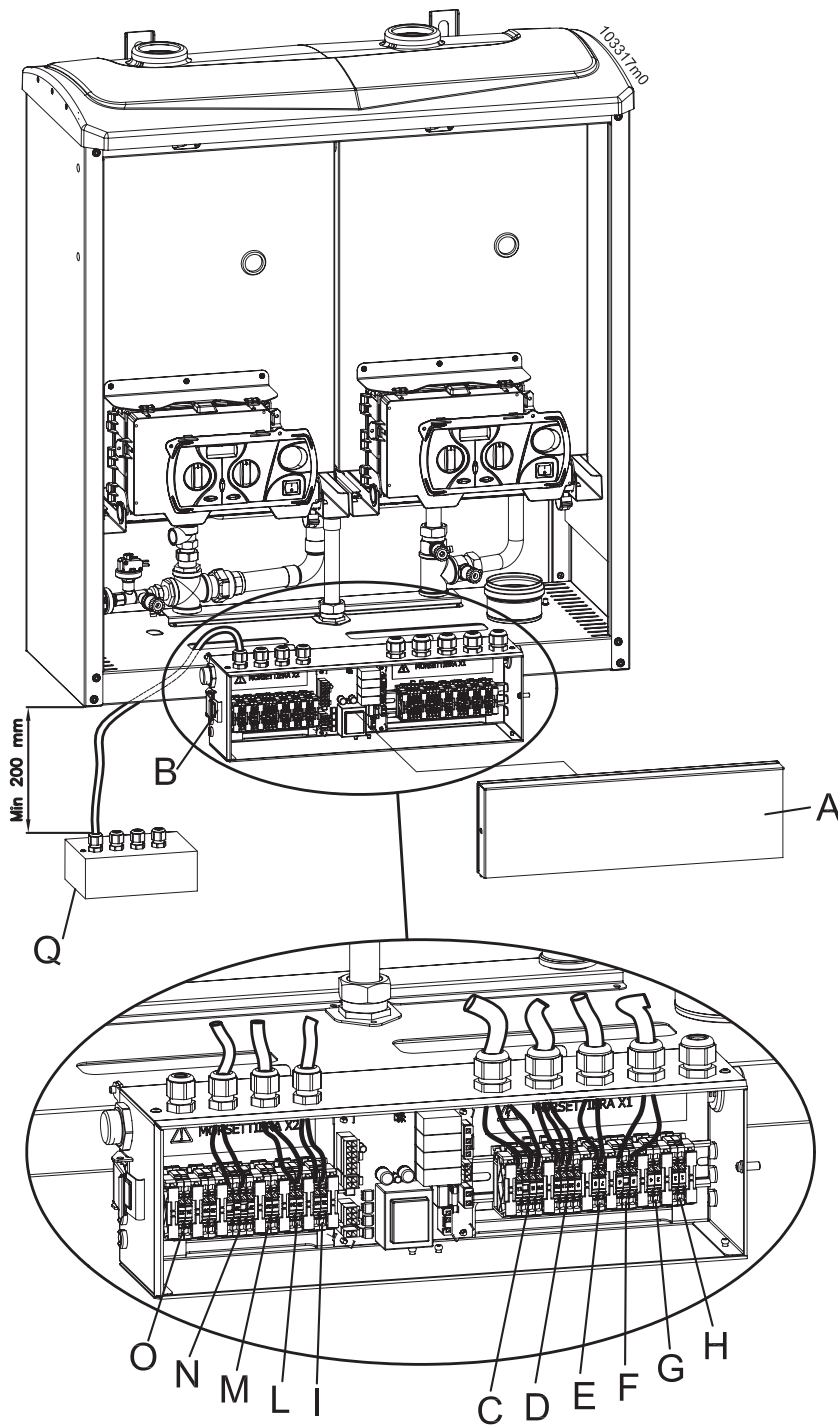

Figure 16 - Electrical connections
To connect the remote control cable to the power supply, proceed as follows (refer to figure 16):
- lay the power cable "C" as shown in figure 16;
To connect the room thermostat cable, proceed as follows (refer to figure 16):
- connect the 2 cable ends to the "TA" terminals (see figure 16).
- connect the bipolar cable to the terminals "L" shown in figure 16;
- connect the 2 ends of the cable to terminals 27 and 28 of the terminal board X2 (see figure 16, detail N).
For better management and rational use of energy, the Combidens thermal module can be controlled by any external temperature controller (see fig. 10, detail "10") with 0-10Vdc analog output. By connecting the output terminals "31" and "32" of the terminal board X2 as shown in Figure 16, detail "O" (follow polarity), the Combidens thermal module is self regulated according to the demand generated by the thermal controller.